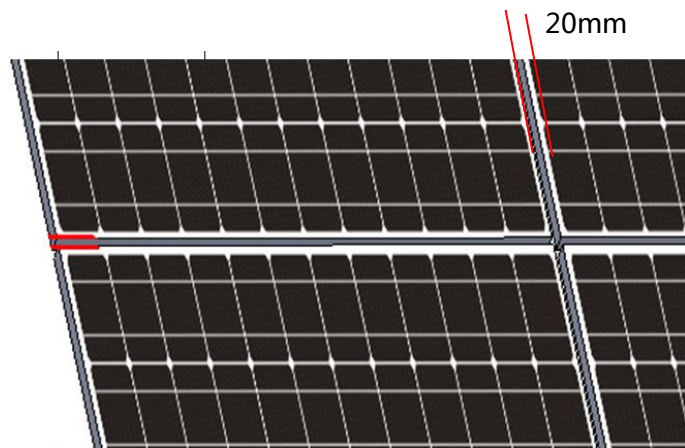

Figure 27
4.6.3 Fix the rest of PV-Module according to the sequence: from low to up, from left to right. Make the side faces of PV-Module tightly against Clamps, as shown in Figure27. Any adjacent side face of PV-Module keep the distance of 20mm, as shown in Figure27.